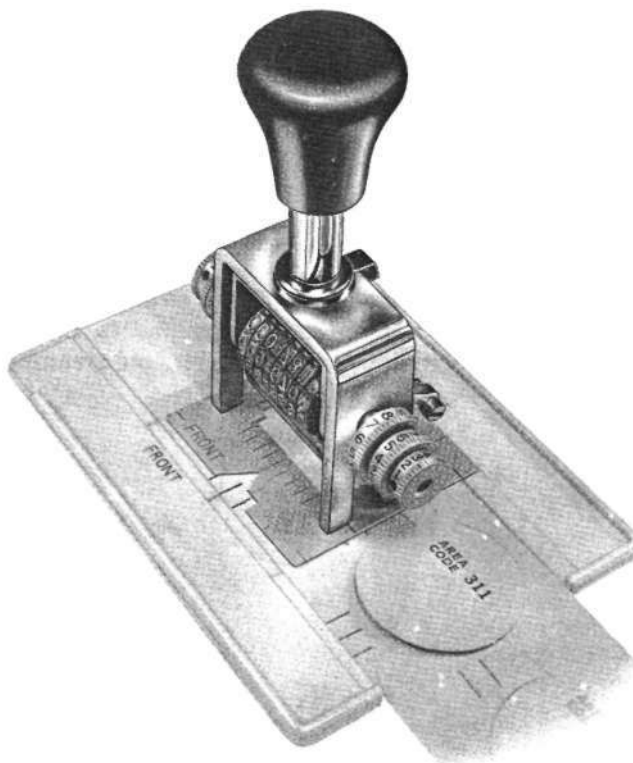

Fig. 5 - Aligning Numbering Machine
- (4) Place numbering machine in upper right corner of indentation on lid (Fig. 5).